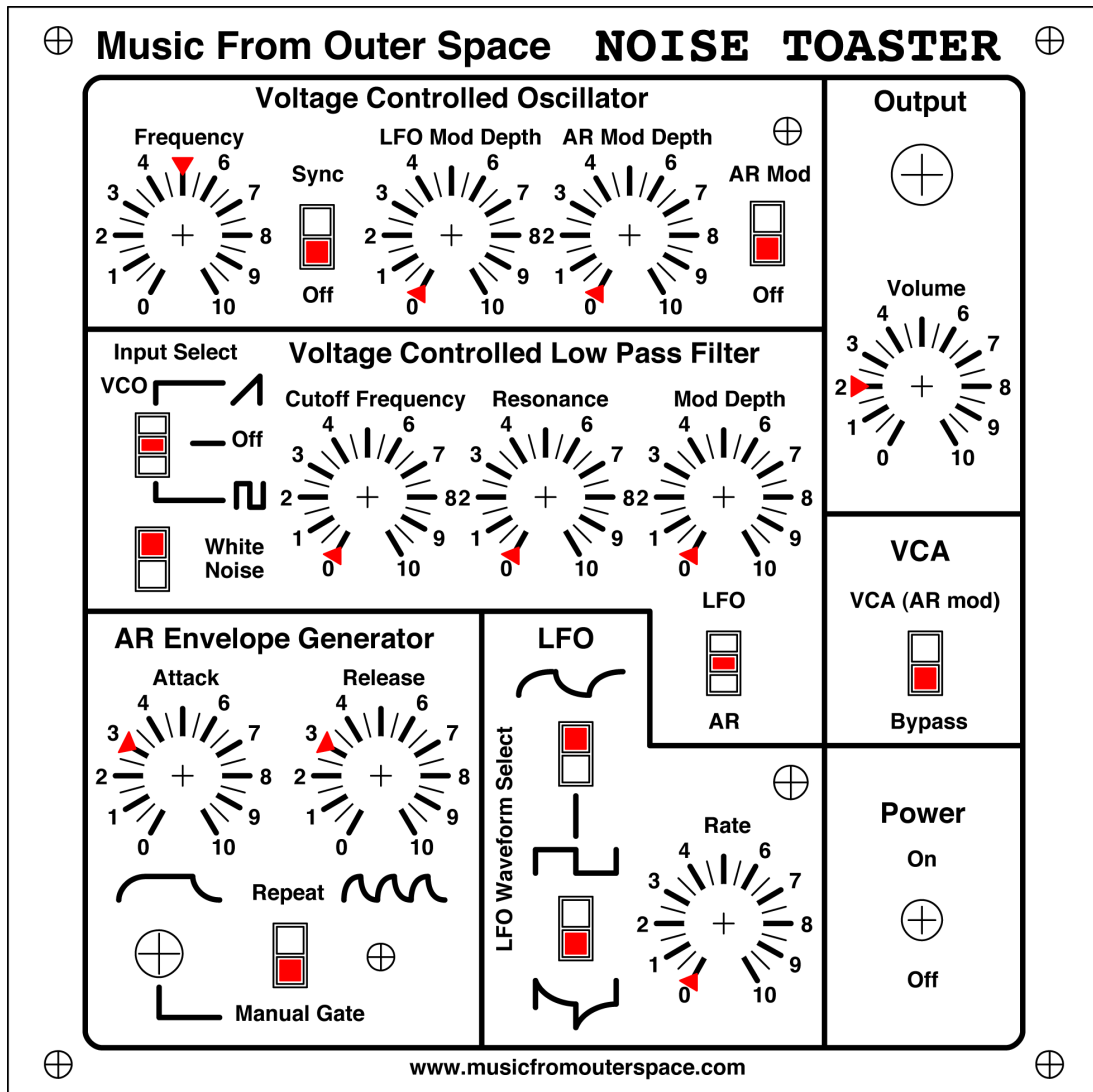

Figure 4-18. Initial test patch
1. Set the Noise Toaster's controls as shown in Figure 4-18. The switch icons show which way to set the toggle switches. For two position switches (SPST and SPDT), there are two states down (bottom box filled in) and up (top box filled in). For SPDT C.O. (center off type switches), there are three states down (bottom box filled in), up (top box filled in), and centered (middle box filled in). Set knobs to the position with the red indicator.
To prepare for this test, return the unit's controls to the settings shown in Figure 4-18 again. Set the VCF's White Noise Input Select switch to Off.
To prepare for this test, return the unit's controls to the settings shown in Figure 4-18 again. The VCF's White Noise Input Select switch should be set to On.
To prepare for this test, return the unit's controls to the settings shown in Figure 4-18. Set the VCF's White Noise Input Select switch to Off.
To prepare for this test, return the unit’s controls to the settings shown in Figure 4-18 again. Set the VCF’s White Noise Input Select switch to Off. Set the LFO’s Rate to 8.